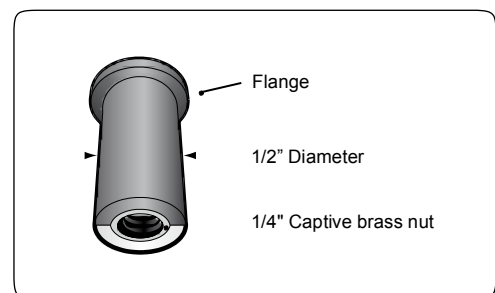

Fig. 7.3. Construction of a Well-nut
6. A Well-Nut is a bushing of tough neoprene rubber with a flange at the top end and a captive brass nut mounted within the bore at the bottom end (Fig. 7.3). Tightening a conventional machine bolt or screw engages the captive nut thereby causing the bushing to expand outwards. This fastens securely to thinner roofs by bulging up and against the bottom surface of the roof (Fig. 7.6). If used in a blind hole in a solid surface material, the rubber will expand outwards to create a secure fastening (Fig.7.7). The neoprene and brass resist most environmental conditions. Additionally, the Well-Nut seals the drilled hole effectively against air and liquid leakage.